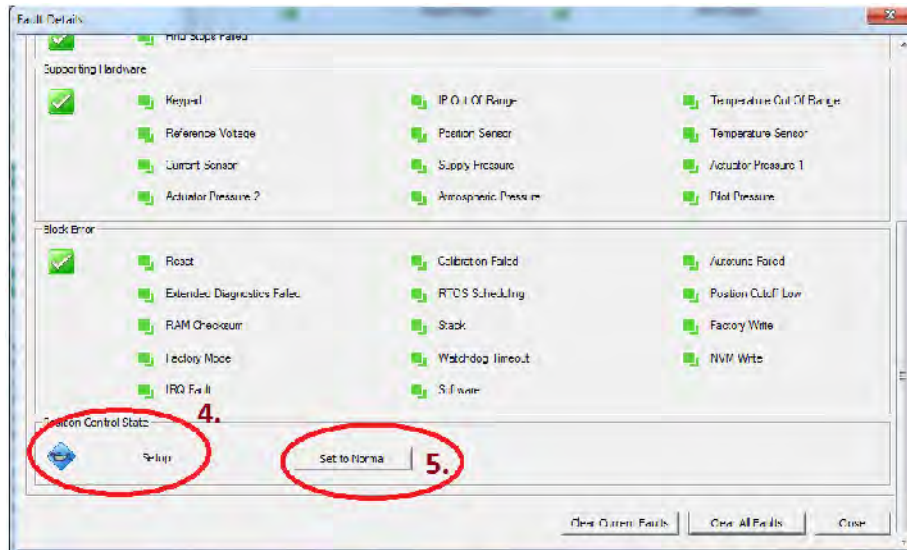

Figure 98 Position Control State
In *Position Control State* group box (at the bottom of the screen) you can see that the device is being setup from the local display (4. in Figure 98).
5. Press **Set to Normal** (5. in Figure 98) to switch the display back to *Normal* mode and the positioner follows the setpoint received from Transducer block. You can verify success by noting that the TB state is not LO, as in Figure 97